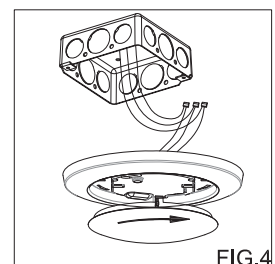

FIG.4
5. Align two holes in the fixture with Outlet box. Use screws to attach one to another. Do not over tighten. (FIG.4)